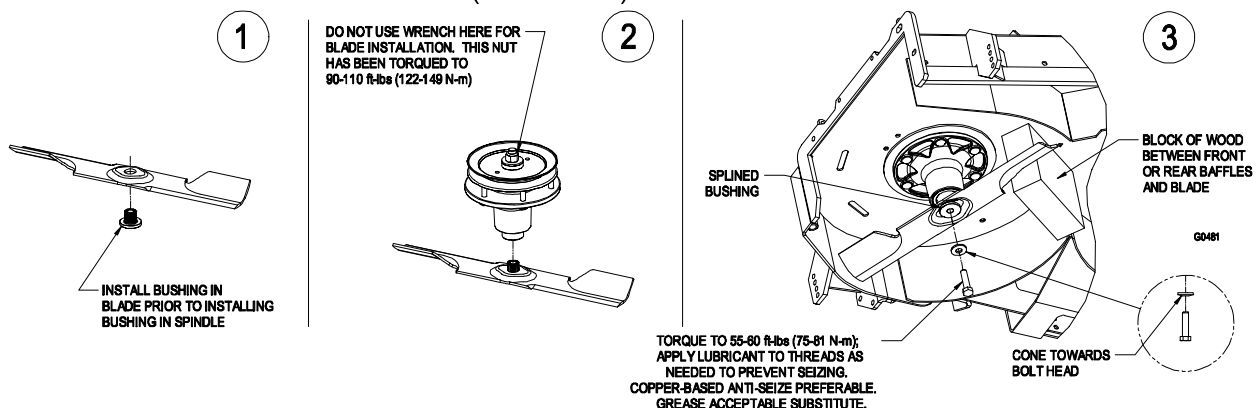

FIGURE 3
- d) Re-install the blades (if they were removed) in the following order (See Figure 3):